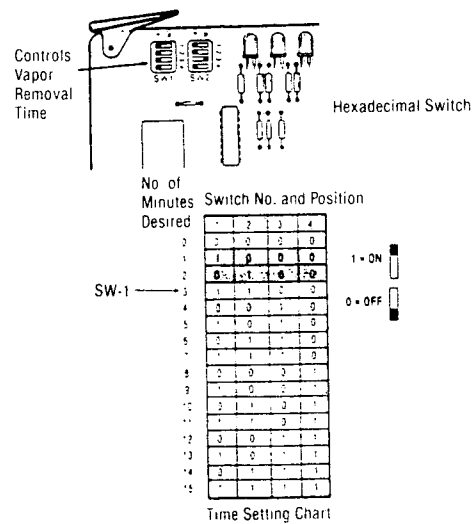

Figure 8-18. VAPOR REMOVAL TIME SETTING HEXADECIMAL SWITCHES AND UNITS FIELD FITTED WITH VENTURI VAPOR REMOVAL SYSTEM (Units After 2/84).
3. Adjust the vapor removal time by resetting the dip switches on PC board 2 until visible vapor leaving the machine reaches approximately 15 seconds. (See Fig. 8-18)